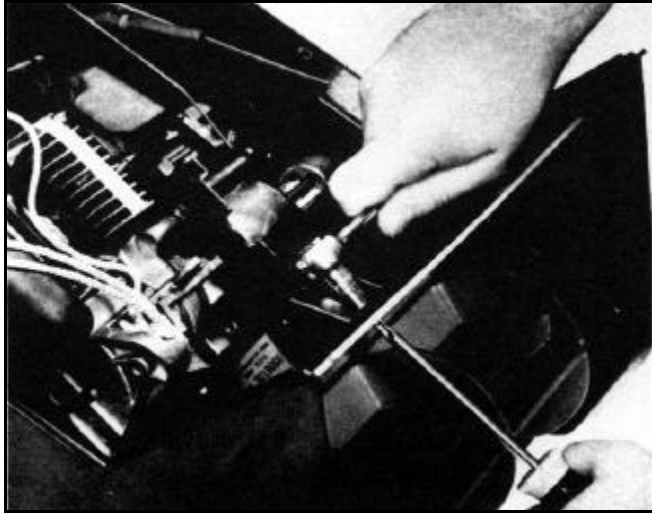

Figure 220
9. The engine is mounted on a single engine mount and is supported with a rubber isolator mount. To disconnect the engine from the housing, remove the screw and nut which hold the engine mount to the housing (Figure 220).